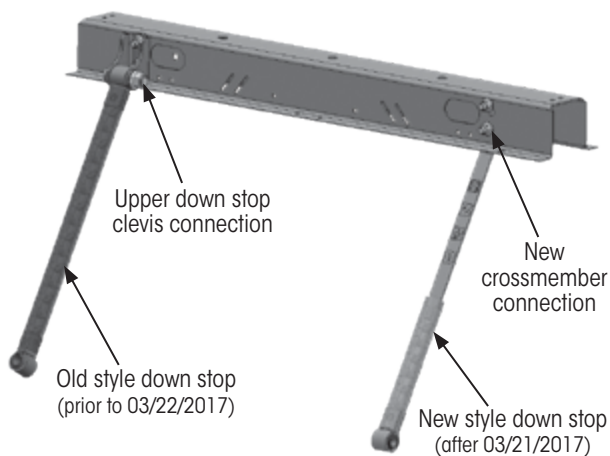

Figure 1: Down stop replacement
ZMD® ZERO MAINTENANCE DAMPING®, standard on ULTRAA-K® slider suspension systems, includes two major components: air springs and down stops. The down stop replacement kit includes one down stop and hardware (Figure 1).
2. **If replacing an old style down stop (Figure 1), remove** the upper down stop clevis from the crossmember.